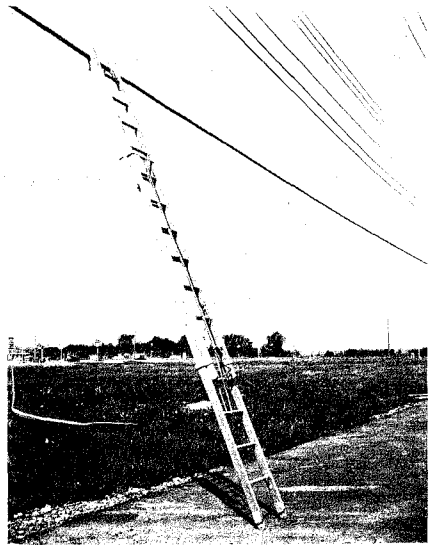

Fig. 5 — Base of Ladder Properly Positioned
5.02 Set a ladder only on secure footing. Set both feet of the ladder at the same level and on a line parallel to the surface on which the top of the ladder rests. If necessary, employ a ladder wedge or remove earth from beneath the high side to bring it to the level of the lower side. *Never increase the length of a side rail by nailing a board to it.* If a ladder leans to either the right or the left, it is not properly placed. Always place an extension ladder with the top section to the front. A well placed ladder is shown in Fig. 5.